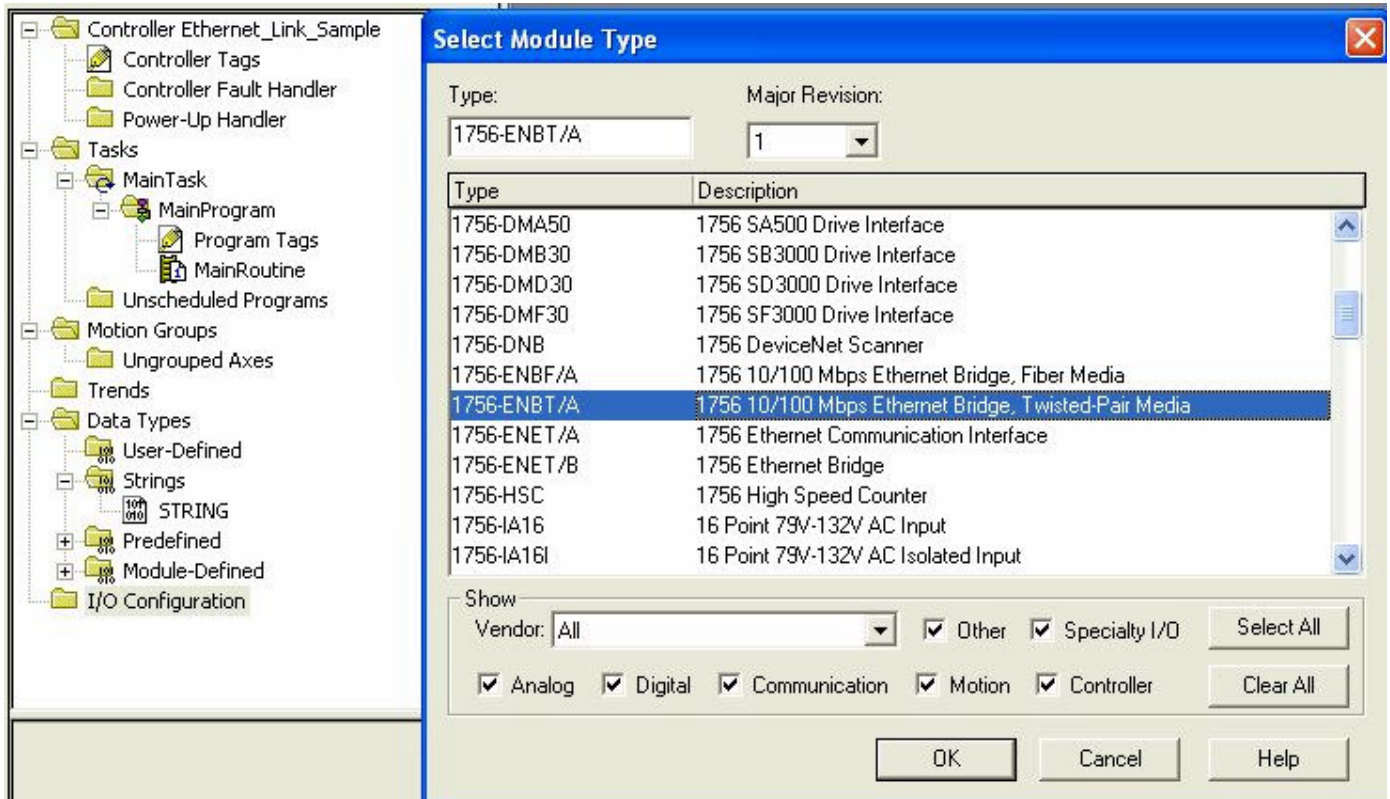

Figure 8. Selecting New Scanner Module
2. In the I/O configuration, select the Ethernet scanner. Right click on the I/O Configuration folder to select a New Module. Select the type of scanner module that will be used in the PLC. Refer to Figures 8 and 9